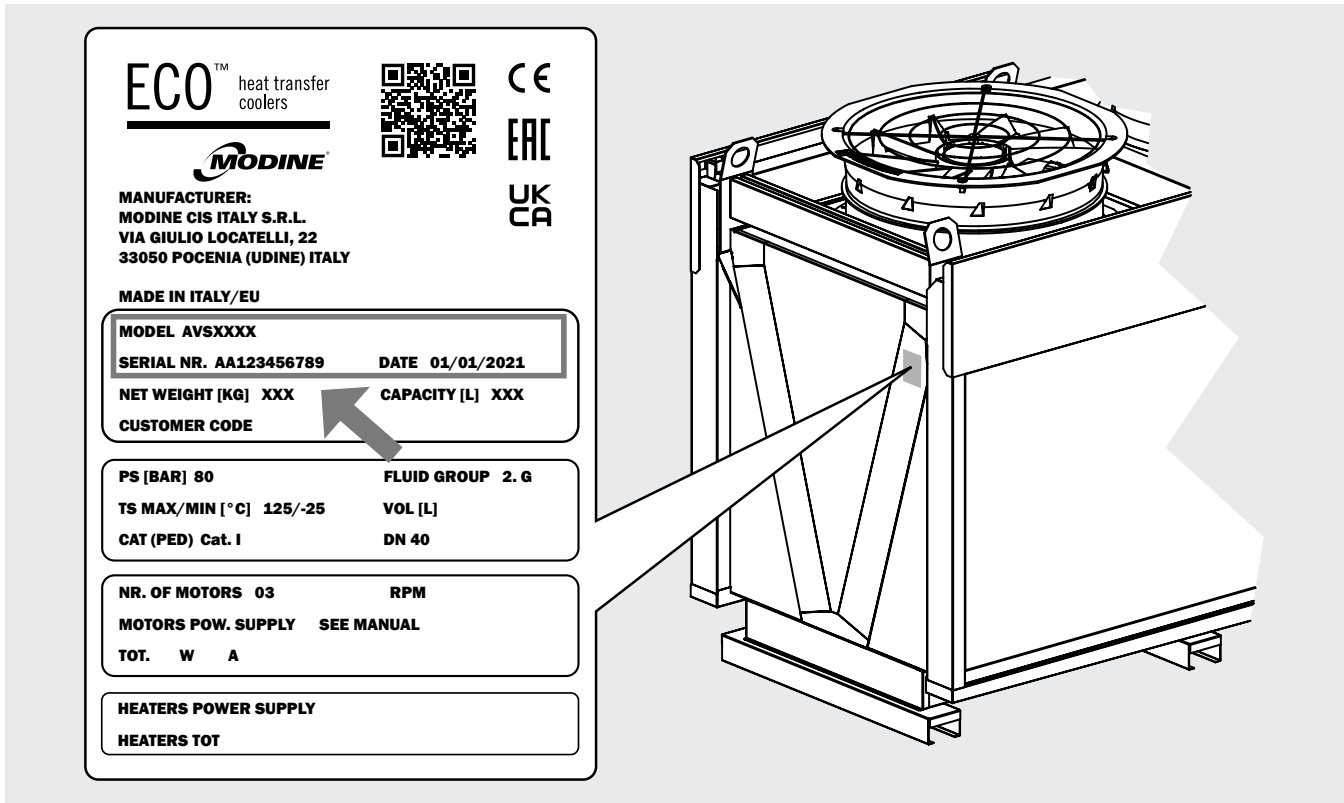

Figure 3
3.1 For any communication, request for assistance or spare parts, please provide the model name and serial number shown on the data plate, see Figure 3.